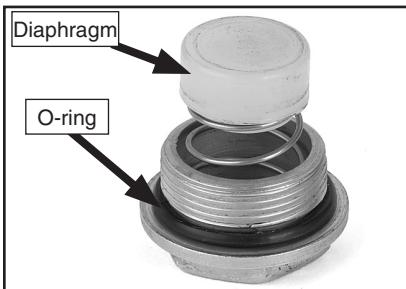

Figure 14. Check valve diaphragm and spring.
3. Inspect the O-ring and diaphragm (Figure 14) for damage and dirt.